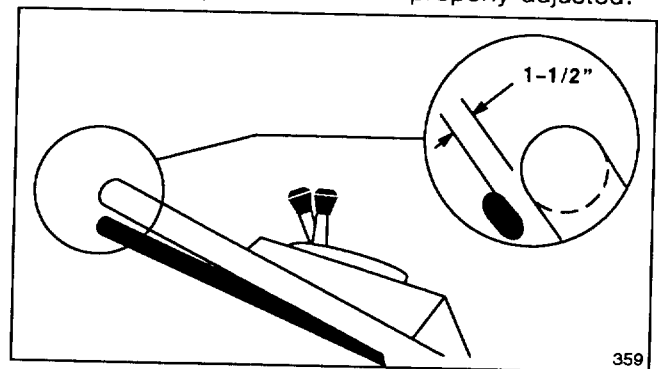

Figure 18
3. CHECK ADJUSTMENT—Adjustment is correct when control bar is about 1-1/2 inches from handle (Fig. 18) and wheels start to turn freely.